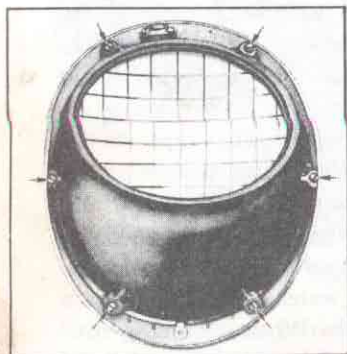

Fig. 46—Headlight Housing Retaining Screws
3. Place assembly upside down, remove screws, indicated by arrows (fig. 46), retaining housing and screen to rim, and discard screen.